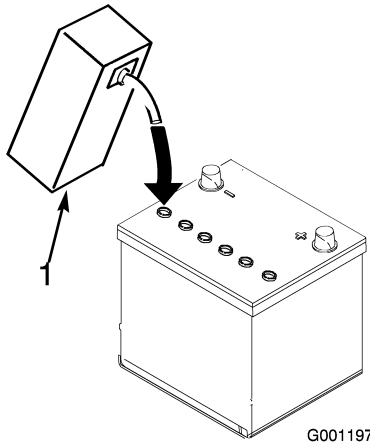

Figure 9
3. Carefully fill each cell with electrolyte until the plates are covered with about 1/4 inch (6 mm) of fluid (Figure 9).
4. Allow approximately 20 to 30 minutes for the electrolyte to soak into the plates. Refill as necessary to bring the electrolyte to within about 1/4 inch (6 mm) of the bottom of the fill well (Figure 9).